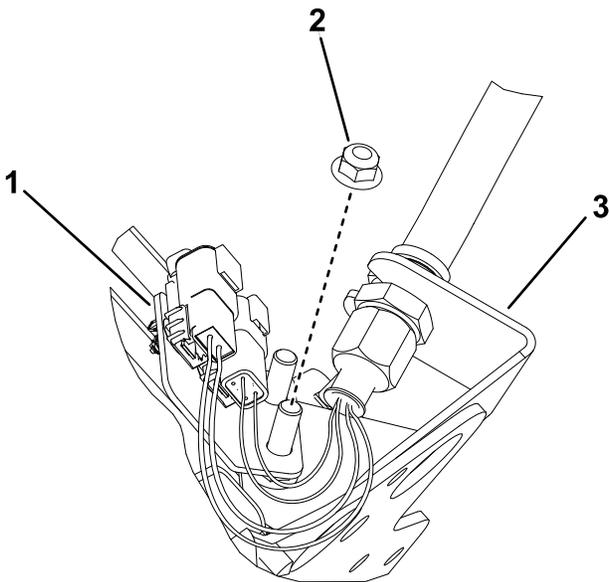

**Figure 25**
- Repeat the procedure on the remaining 4 bulkhead locations as shown in Figure 25 through Figure 28.